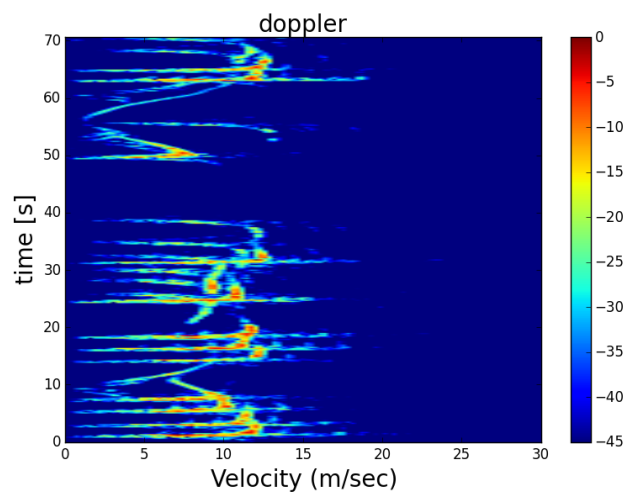

Figure 9: Velocity-time plot for data in “highway_doppler.wav”.
4. A Python script “doppler.wav.m” is available at this link to analyze the data. An example .wav file named “highway_doppler.wav” can be analyzed for you to get an idea of the expected outcome. Fig. 9 shows the velocity-time plot of the data in “highway_doppler.wav”. Fig. 9 shows the velocity-time plot for the data in “highway_doppler.wav”. Each streak corresponds to a car passing by the radar which is mounted alongside a highway. As the car passes by the radar, it’s relative speed to the direction of the radar antenna’s main beam is very small but increases quickly as the car moves away from the radar.